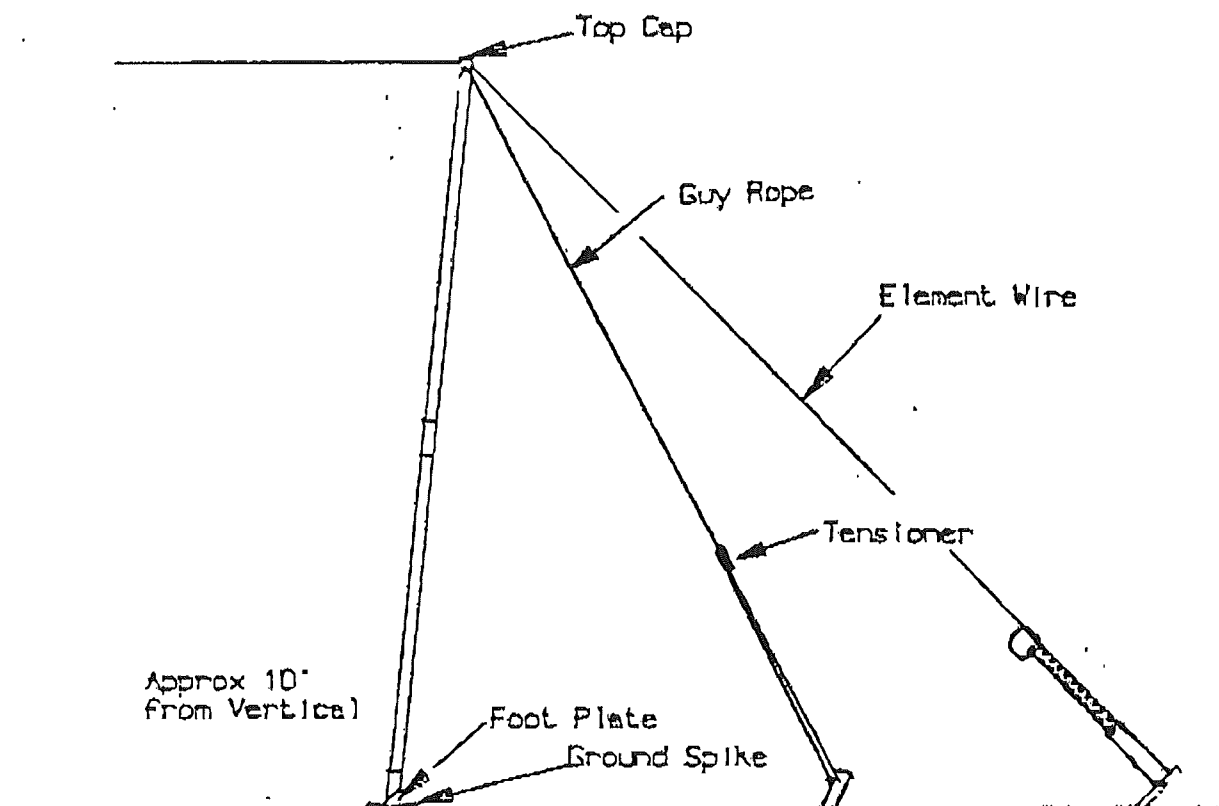

Figure 5-14. Sloping Long Wire Termination
- Step 11 Disconnect the Aerial Wire Assembly from the reel and terminate it with a Load Assembly and Ground Peg Assembly. Pretension the wire, drive in the Ground Peg Assembly, and assemble and erect the Minimast. (See paragraphs 4.2.7, 4.2.8, 4.2.9 and 4.2.10.) (See Figure 5-14.)